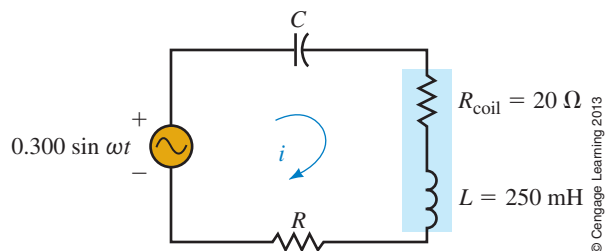

FIGURE 21–51
6. Suppose that the circuit of Figure 21–51 has a resonant frequency of $f_S = 2.5$ kHz and a quality factor of $Q_S = 10$.